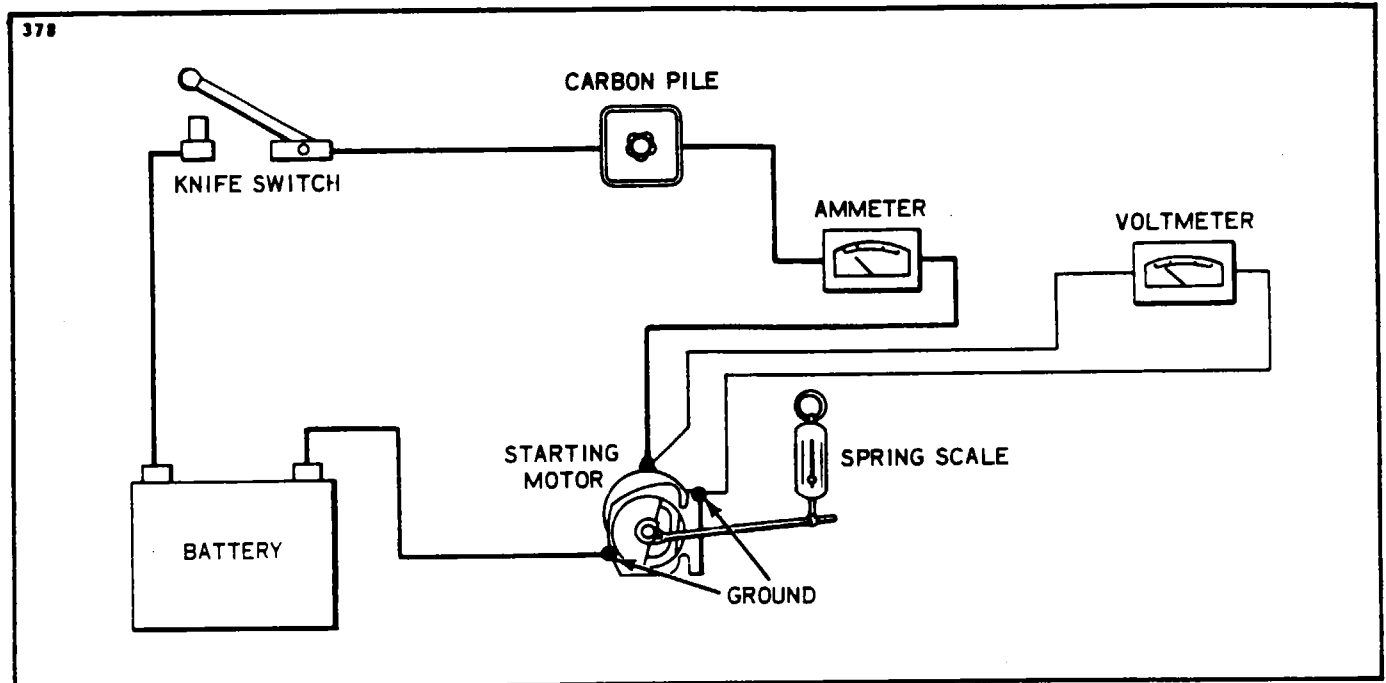

Figure 11-28. Stall - Torque Hook-Up
b. If no difficulty is indicated in the above test, a stall torque test may be made to see if the starting motor is producing its rated cranking power. Make test connections as shown in Figure 11-28.